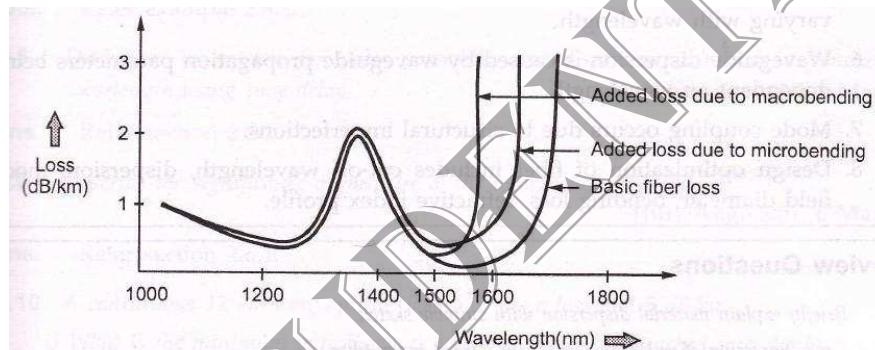

Fig. 2.9.6 Fiber attenuation due to macrobending and microbending
- x The macrobending and microbending losses are significant in single mode fibers at 1550 nm region, the lower cut-off wavelengths affects more. Fig. 2.9.6 shows macrobending losses.